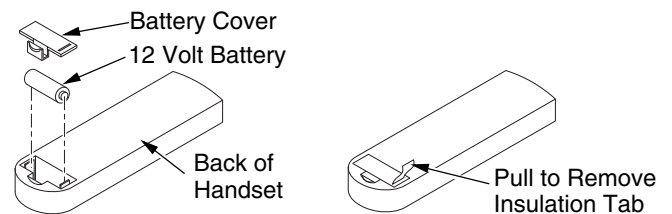

Figure 47 - Installing Battery into Back of Handset
3. Activate the remote handset battery by removing the insulating tab on the back of the handset (see Figure 47). The battery is included pre-installed.